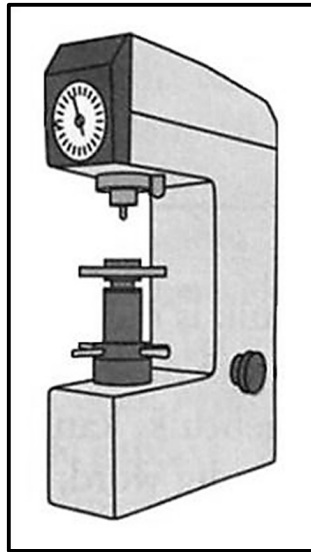

FIGURE 3.7
3.7 Identify the type of hardness tester shown in FIGURE 3.7 below.